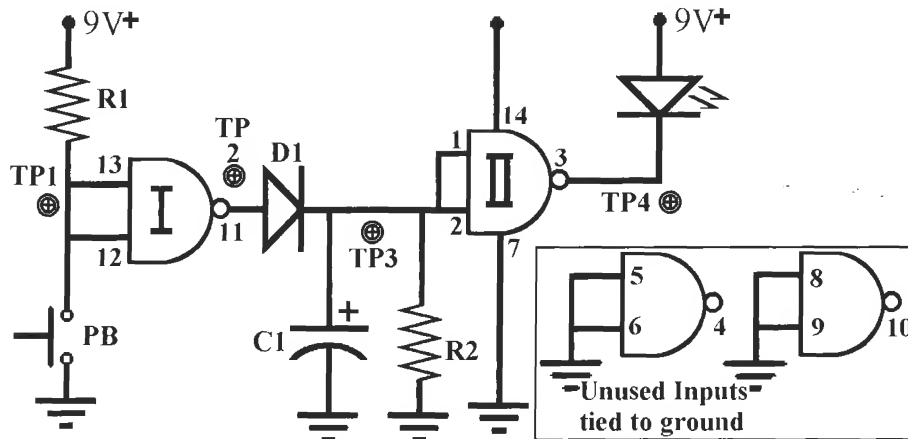

Figure L16-1
Breadboard the circuit shown in Figures L16-1 and L16-2 (see Table L16-1).
1. Attach the power supply and measure the voltage at the test point 1 (TP 1 shown in Figure L16-1).